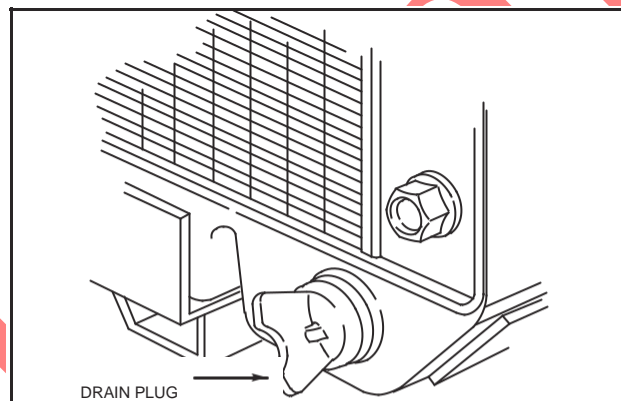

Fig. 1 – Draining Coolant
1. Remove radiator cap. Remove radiator drain plug and drain the system, Fig. 1.